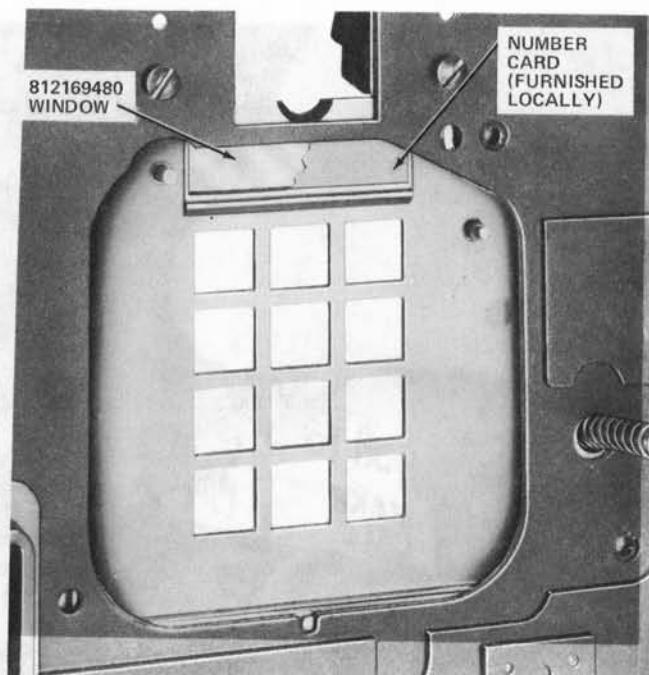

Fig. 48—Window and Number Card Installed in Touch-Tone Telephone Set
(1) Remove the coin cover unit (1-type set) or open the door and faceplate assembly (2-type set).
(2) Remove the four mounting screws securing the coin dial unit and pull the coin dial unit off the housing.
(3) Insert the number card in the window as shown in Fig. 48.
(4) Insert the window in the faceplate from the rear as shown in Fig. 48.